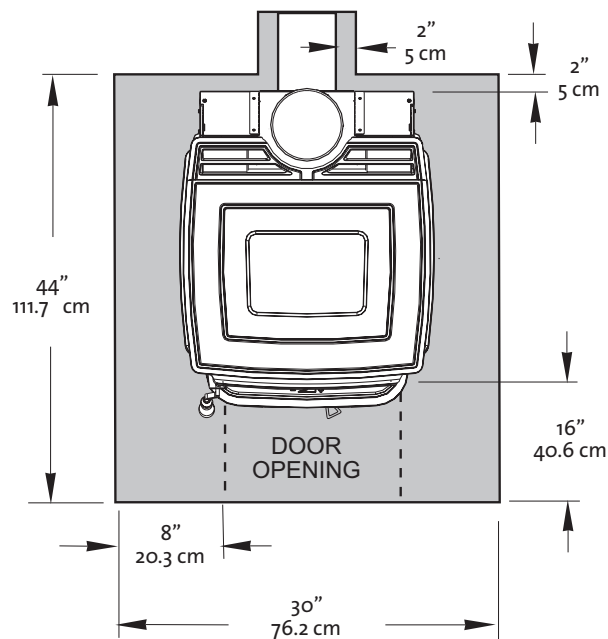

Figure 9. Floor Protection minimum dimensions, U.S.
**IN THE U.S:** Floor protection must extend forward from the door opening at least 16 in. and 8 in. from the sides of the door opening. Protection must also extend 2 in. from the rear and 2" to the sides under any horizontal chimney connector. This will result in a minimum floor protector measuring 27" wide x 44" deep. See fig 9.